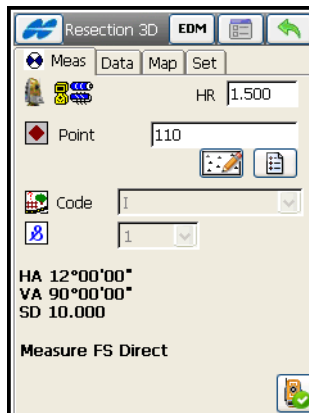

Figure 8-41. Resection
- On the **Resection 3D** screen (Figure 8-41), select the point of known coordinates from the map or from the list.